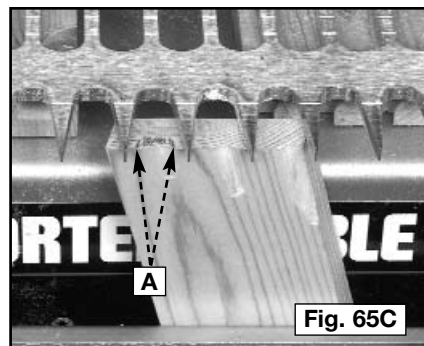

Fig. 65C
- Step 5** - Mount the pin board with the outside surface facing away from the base of the jig. Center the marks on the end of the board between the angled fingers of the template (A) Fig. 65C.